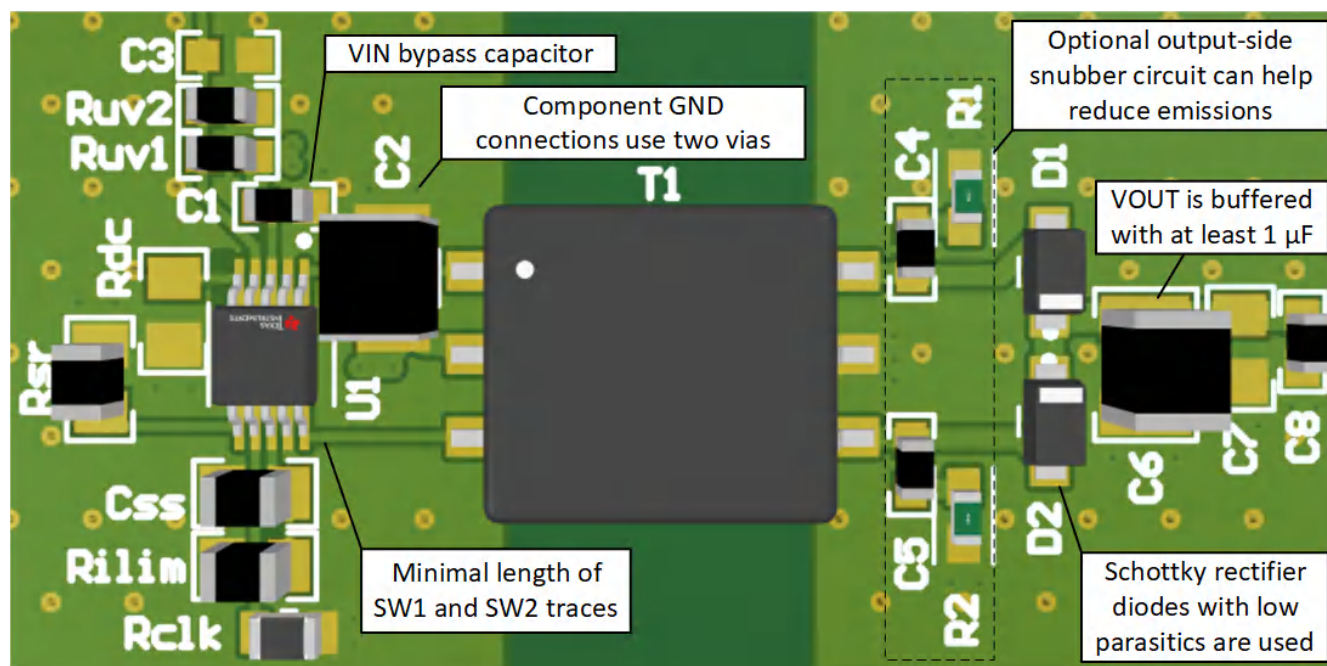

图 9-10. Layout Example of a 2-Layer Board
- The optimum placement is closest to the VIN and GND pins at the board entrance to minimize the loop area formed by the bypass-capacitor connection, the VIN terminal, and the GND pin. See Figure 9-10 for a PCB layout example.